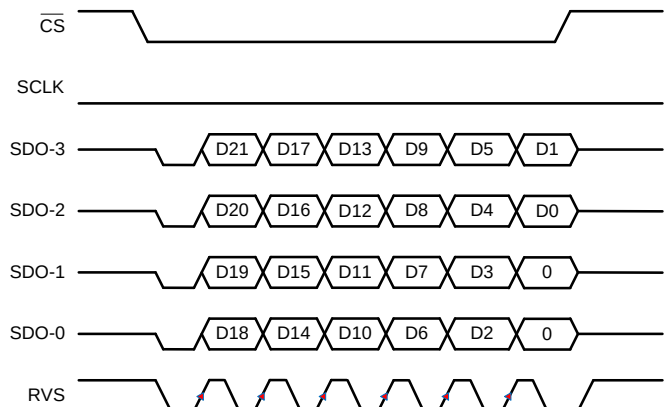

**Figure 82. SRC-INT-QS: SRC, INTCLK, Quad SDO, SDR**
| SRC-INT-QS | INTCLK (3)     | Quad      | SDR              |                                      | 4Fh      | 5                                  | <a href="#">Figure 82</a> |